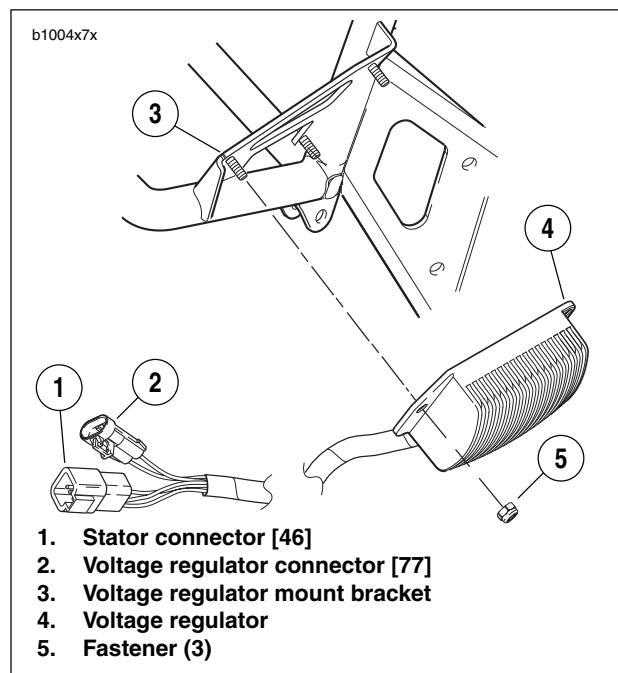

Figure 7-34. Voltage Regulator
3. See Figure 7-34. Disconnect stator connector [46] (1) and voltage regulator connector [77] (2) located under sprocket cover. See 7.25 SPROCKET COVER WIRING.
4. Remove fasteners (5) and voltage regulator (4) from bracket (3).
1. See Figure 7-34. Attach **new** voltage regulator (4) to bracket (3). Tighten **new** fasteners (5) to 48-60 in-lbs (5.4-6.8 Nm).
2. Connect stator connector [46] (1) and voltage regulator connector [77] (2) located under sprocket cover. See 7.25 SPROCKET COVER WIRING.